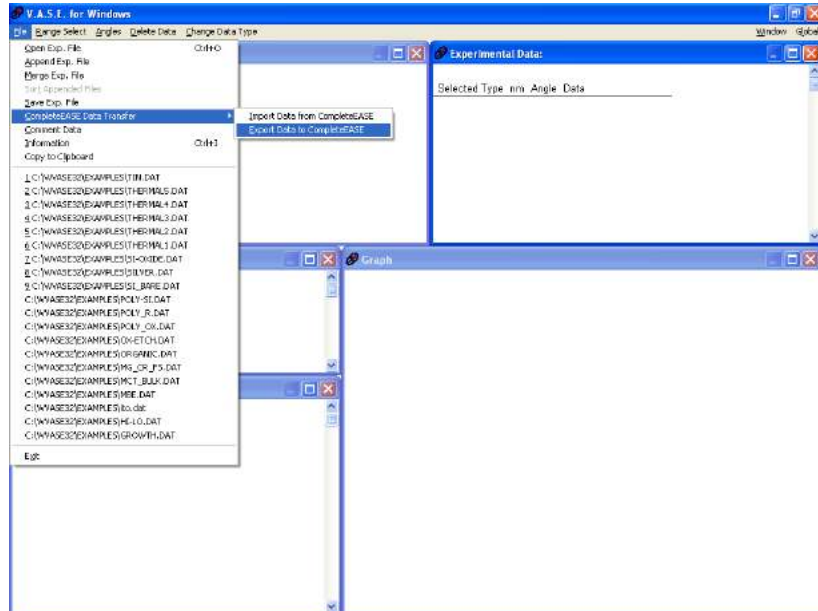

Figure 14-5. Selecting “Export Data to CompleteEASE”
1. From the Experimental Data window in WVASE32, select the file menu and choose “CompleteEASE Data Transfer”. Then, select the “Export Data to CompleteEASE” option as show in Figure 14-5.